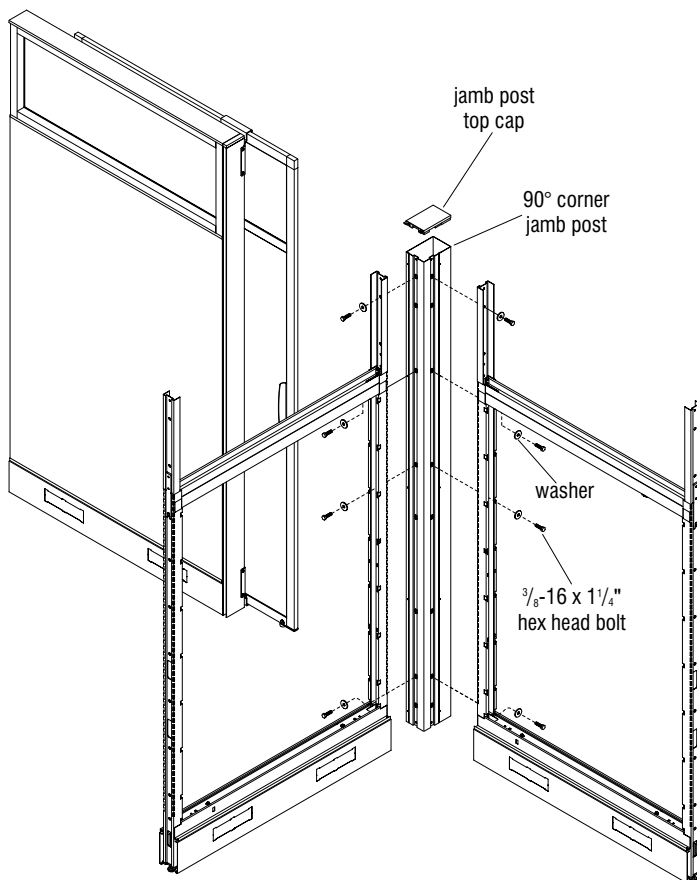

Figure 13
1. Position the 90° corner jamb post such that approximately 1" of the post extends into the walkway as illustrated. Fasten the jamb post to both panel frames using the  $\frac{3}{8}$ -16 x  $\frac{1}{4}$ " hex head bolts and washers. Install the jamb post top cap (Figure 13).